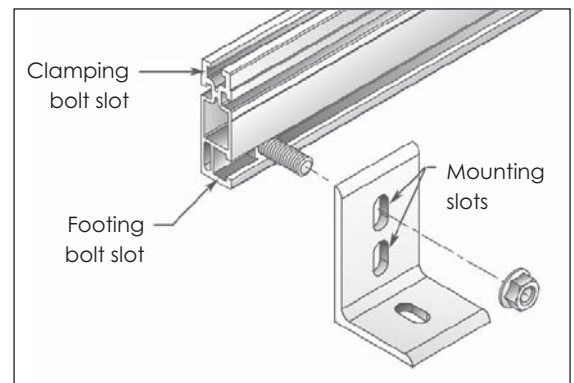

Figure 14. Foot-to-rail splice attachment
**Mounting Rails on Footings:** Rails may be attached to either of two mounting holes in the L-feet (Fig. 14). Mount in the lower hole for a low profile, more aesthetically pleasing installation. Mount in the upper hole for a higher profile, which will maximize airflow under the modules. This will cool them more and may enhance performance in hotter climates.